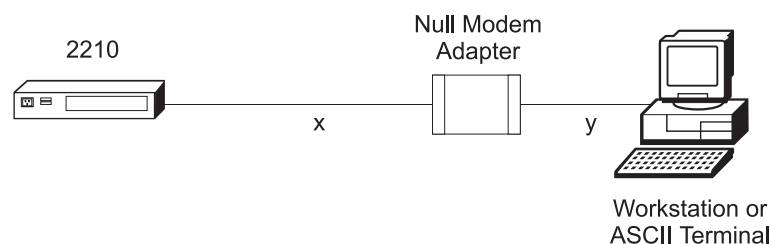

Figure A-1. Local Terminal Connection to the EIA-232 Service Port
- Locally through a null-modem adapter and serial cables supplied with this product that are attached to the EIA-232 service port using an ASCII connection. See Figure A-1.